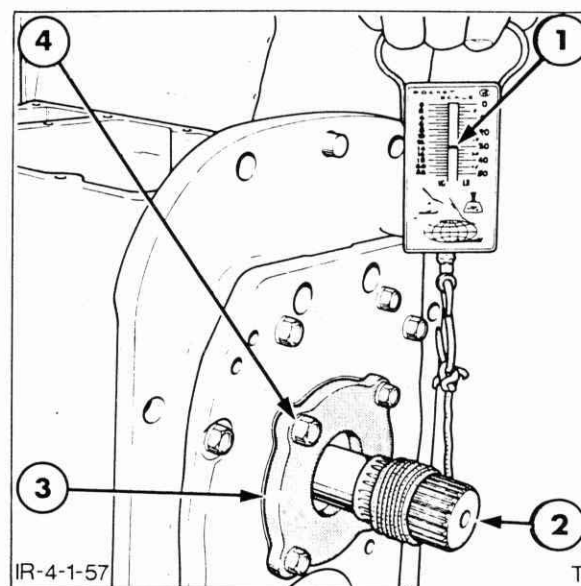

Figure 4-157
8. Wrap a suitable length of cord around the output shaft splines, Figure 4-157. Ensure that the cord does not overlap. Attach a pull scale to the cord and measure the pull required to rotate the output shaft.